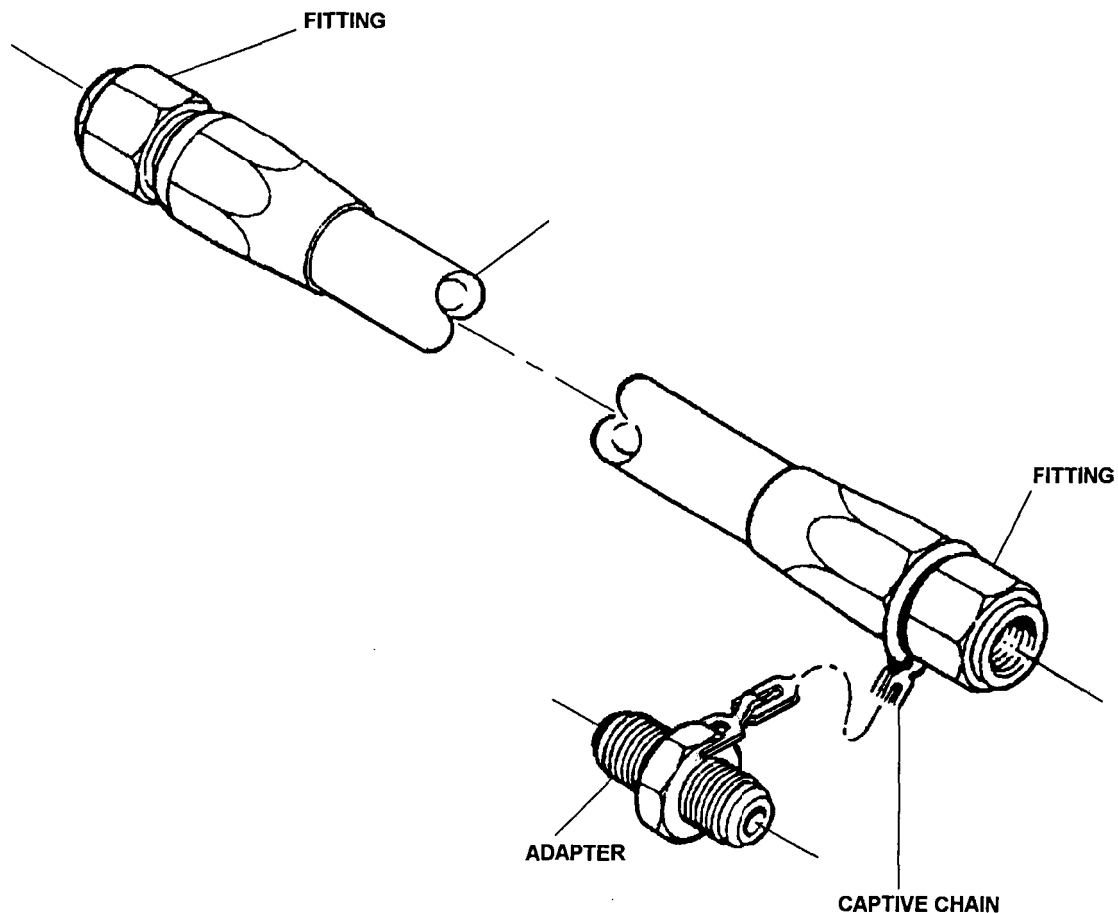

Figure 4-53. Repair of Auxiliary Fuel Line
- Remove adapter, captive chain and fittings from hose (Figure 4-53).